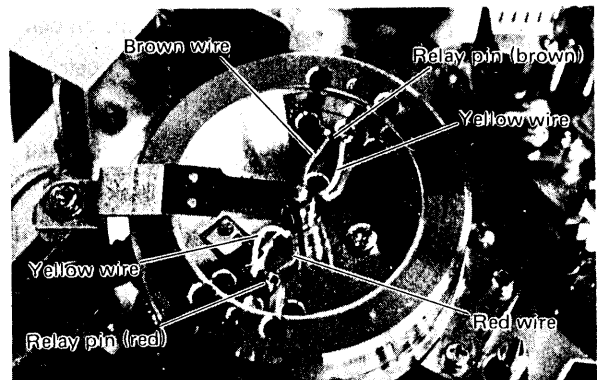

Fig. 2-6 Upper drum wiring
1. Take out screw (3) and remove the brush and earth lug.
2. Unsolder the four wires connecting the lower drum from the relay pins of upper drum (perform quickly to avoid damaging the wires) as shown in Fig. 2-6.